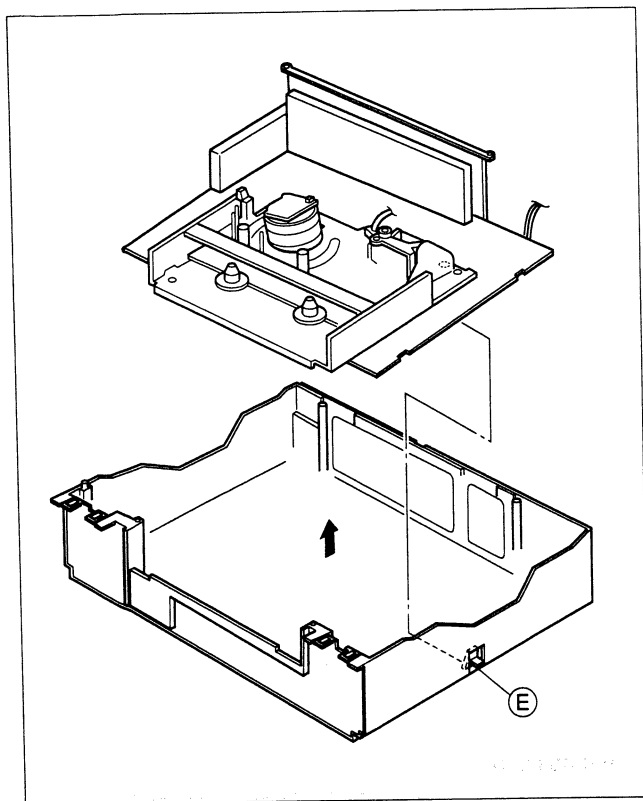

Fig. 1-4-2
- (6) Remove the hook (E) while holding the edge of the Main board assembly, and remove the Main board and Main deck assemblies together. At this stage be careful of the power cord and prongs of the jacks on the back side (See Fig. 1-4-2).